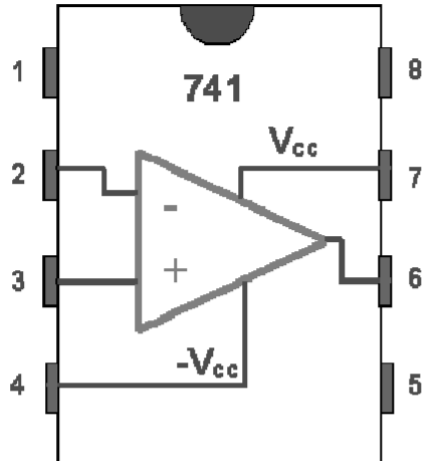
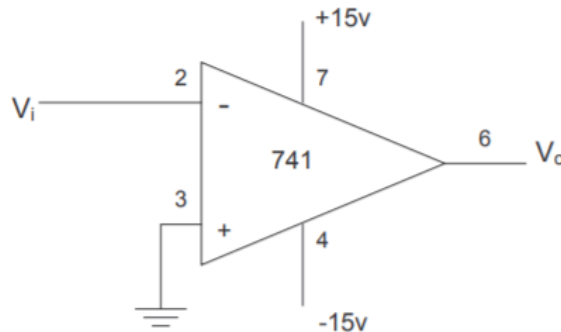

Figure 3-3 741 Op-Amp Pinout
Figure 3-9 Open Loop Amplifier
The pin-out diagram for the 741 op-amp appears in Fig. 3-3. Pins are numbered sequentially counter-clockwise around the DIP. Pin 1 and the last pin (pin 8, in this case) are opposite each other. This is typical of dual in-line packaging regardless of pin count.
3. Refer to the pin diagram of Figure 3-3 and construct the open loop amplifier of Figure 3-9.